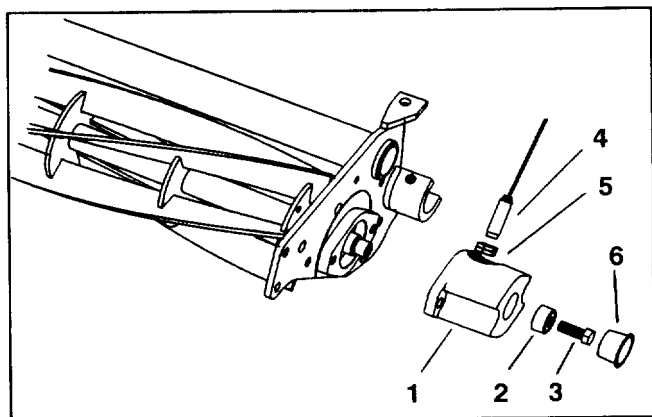

Figure 17
4. Install a counterweight to the left front and left rear cutting units, with nuts previously removed (Fig. 17). Mount counterweight with reel speed sensor up.
5. Through hole in end of counterweight, carefully position and mount a magnet (supplied in traction unit loose parts) to the end of the reel shaft with a 3/8 – 16 x 1" lg. capscrew (supplied in traction unit loose parts). Magnet to be installed with counterbore side toward the end of reel shaft and the smooth side outward (Fig. 17). Torque capscrew to a maximum of 5 ft-lb.